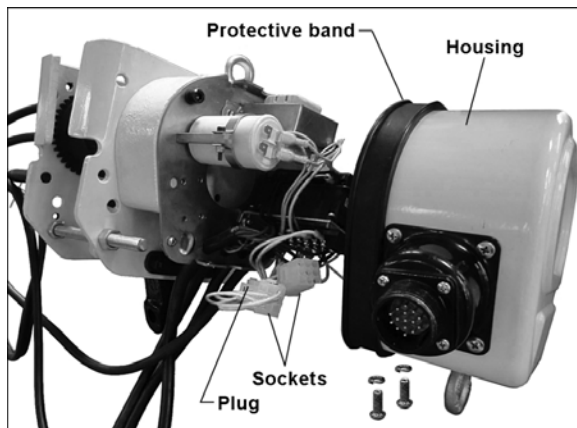

Figure 10
2. Remove the two screws and lock washers on the underside of the housing (see Figure 10) and slide the protective band out of the way. Remove the housing.
3. Carefully pull the plug out of the current socket and insert it into the new socket (see Figure 10). Make sure the notch on the plug fully engages the socket.